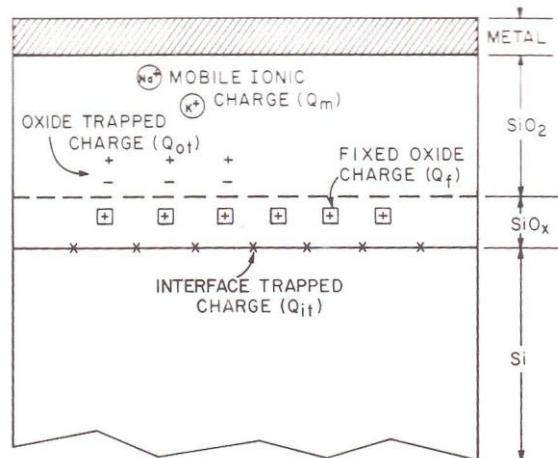

Figure 4(a)
4. (a) Refer to Figure 4(a), explain the following terms :